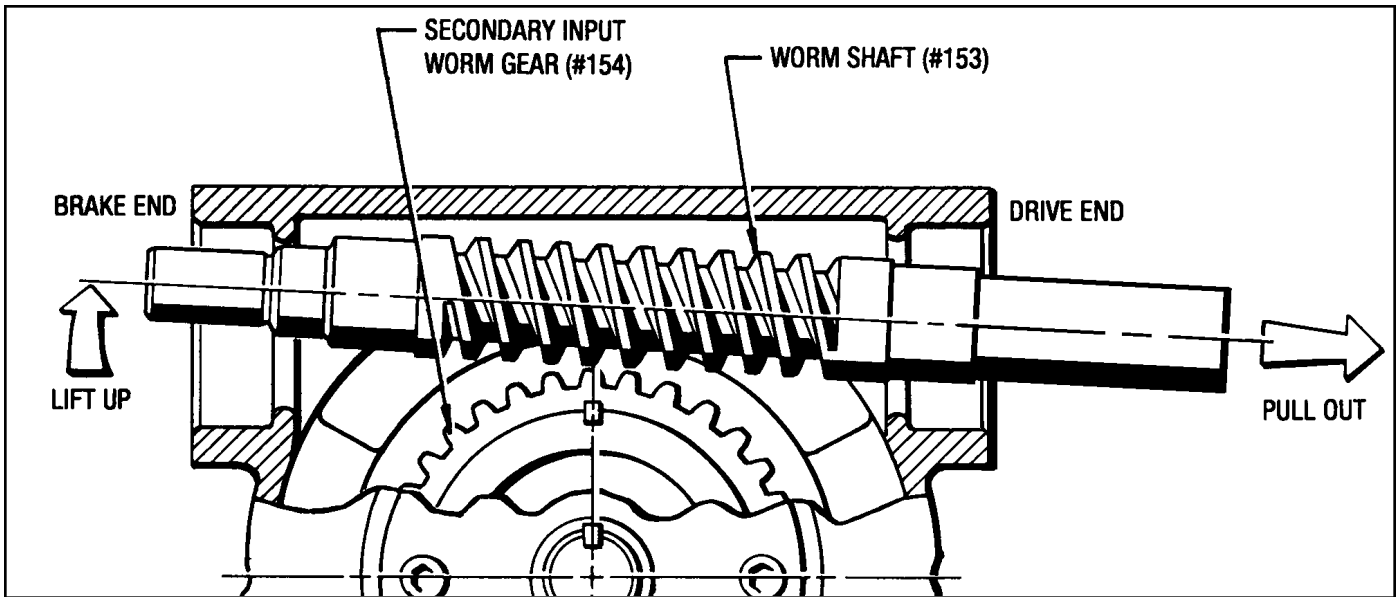

Figure 7.11 - Removing Quill Worm Shaft From Housing
11. From the Quill End of the shaft pull the Worm Shaft (#153) out of the housing, lifting it over the Worm Gear. (See Figure 7.11)